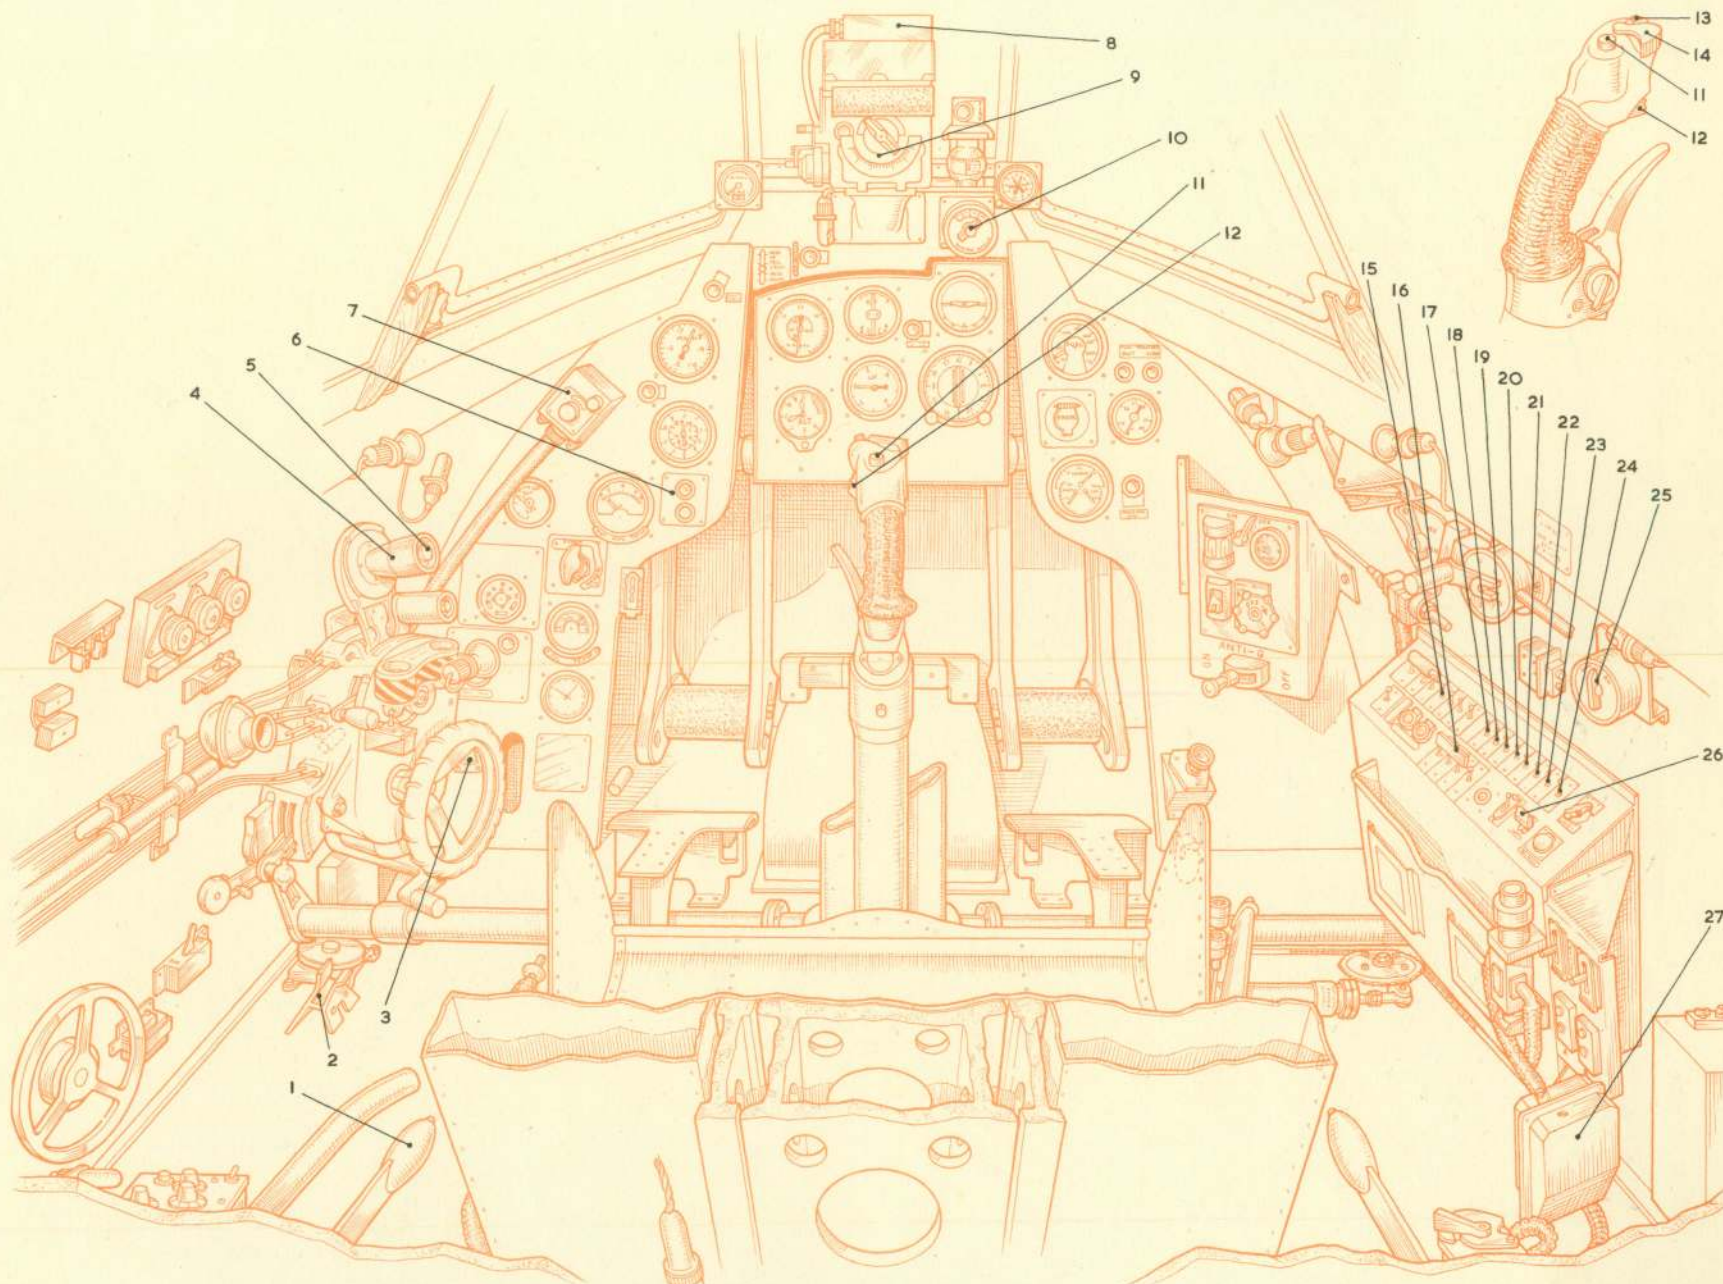

Fig. 3 Operational equipment
**KEY TO FIG. 3 (OPERATIONAL EQUIPMENT)**